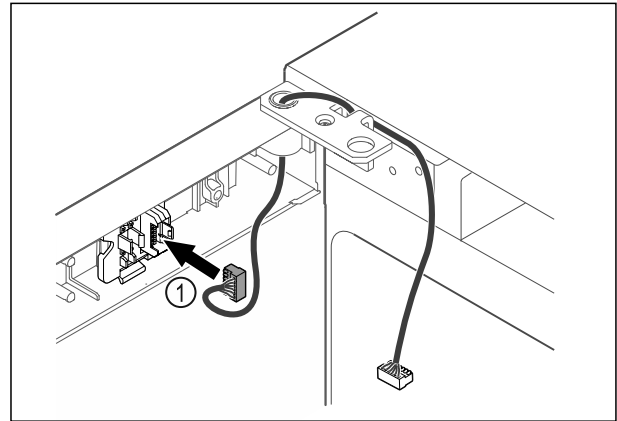

Fig. 46
- ▶ Put the plug Fig. 46 (1) in the plug holder.